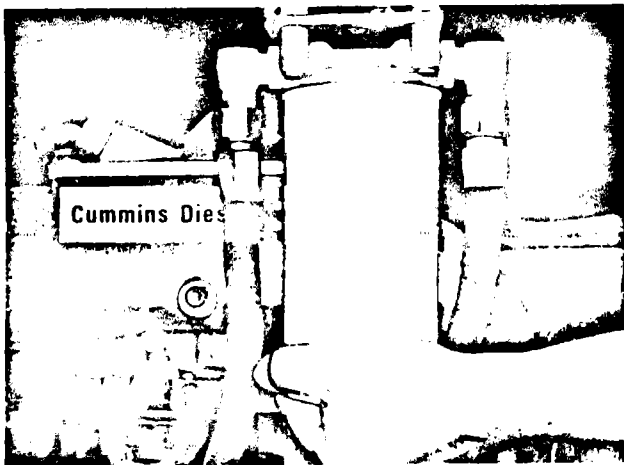

Fig. 2-19, (V11909). Changing "spin-on" type fuel filter
1. Unscrew the combination case and element, Fig. 2-19, discard the element.